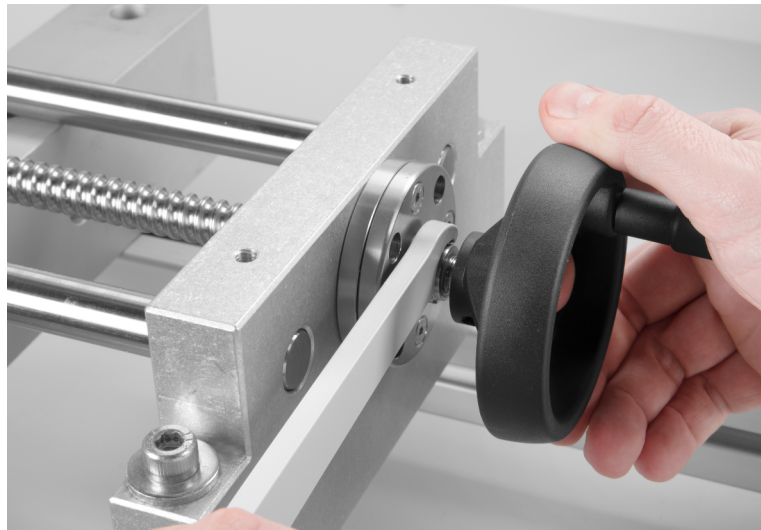

Figure 33: Removing the lock nut using the HN0 wrench.
25. Take the HN0 wrench from the toolbox. While holding the handwheel with your hand, use the HN0 wrench to rotate the lock nut beside the ball screw flange counterclockwise, as shown in Figure 33. Rotate the lock nut as much as possible.